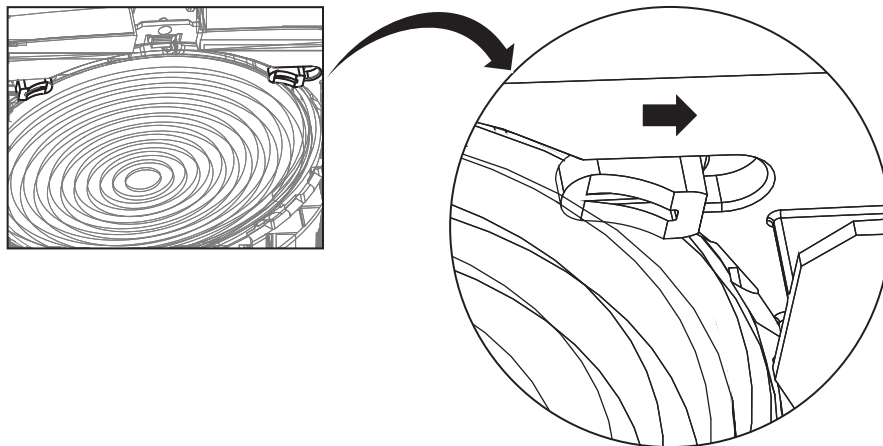

Figure 10: Lens retaining clip
- 4: Slide the plastic lens retaining clips on each side of the lens inward to secure the lens. See Figure 10.